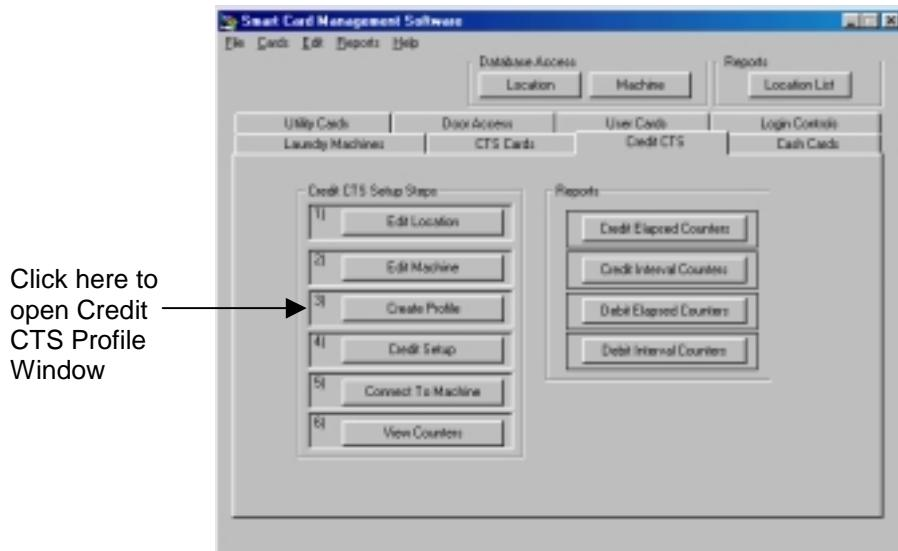

Figure 10.3 Opening the Credit CTS Profile Window
- In the Credit CTS tab, click the Create Profile button (Figure 10.3).
1. In the Credit CTS tab, click the Create Profile button (Figure 10.3).